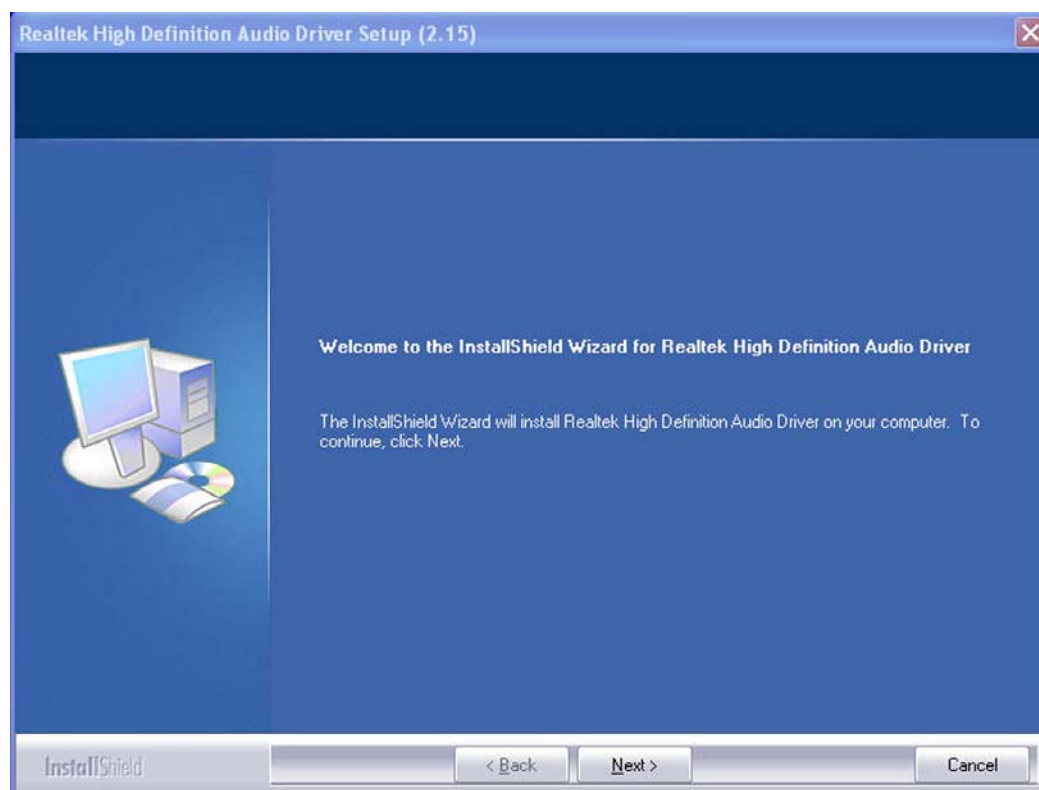

Figure 7-25: HD Audio Driver Setup Welcome Screen
Step 5: The **Welcome** screen appears. Click **NEXT**. See **Figure 7-25**.
Step 5: The Realtek Audio Setup prepares the install shield to guide you through the rest of the setup process. See **Figure 7-25**.